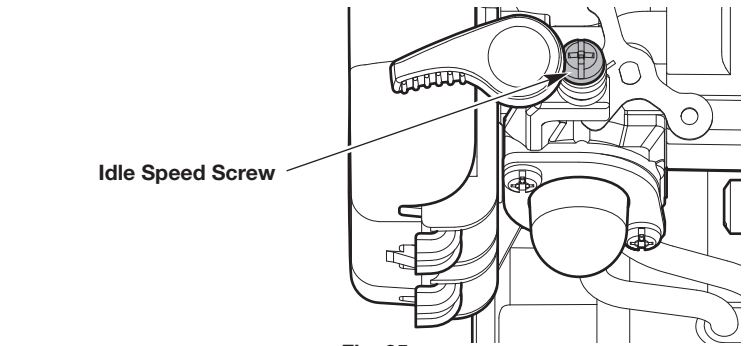

Fig. 25
- If the engine stops, increase the idle speed. Use a small Phillips screwdriver to turn the idle speed screw clockwise, 1/8 of a turn at a time, until the engine idles smoothly (Fig. 25).
- If the saw chain spins when the engine idles, reduce the idle speed. Turn the idle speed screw counterclockwise, 1/8 of a turn at a time, until the saw chain stops moving (Fig. 25).